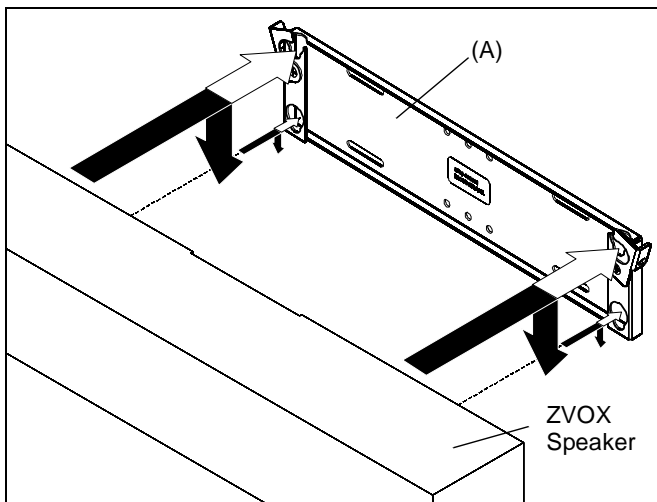

Figure 5
2. Slide mounting buttons on speaker into teardrop holes in speaker brackets (A), and lower speaker until recessed area of mounting buttons is seated in lower area of teardrop mounting holes. (See Figure 5)